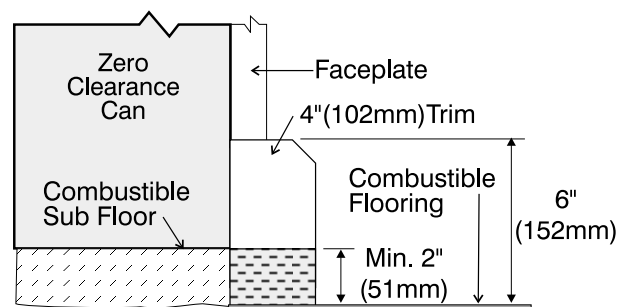

Figure 2
- b) No ashlip is required when U31/I31 Insert is raised by 2" (51mm). See figure 2.